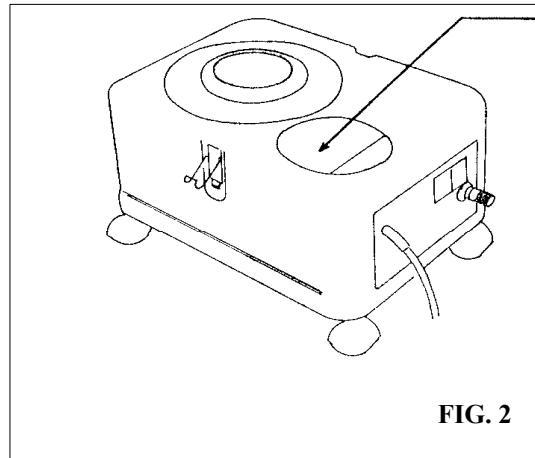

FIG. 2
2. Fill the solution tank with cold or warm water, through the filling hole, adding a 5% of non foaming detergent (1/2 liter in 10 liters). Higher concentrations may be used in case of particularly dirty surfaces. (Fig. 2)